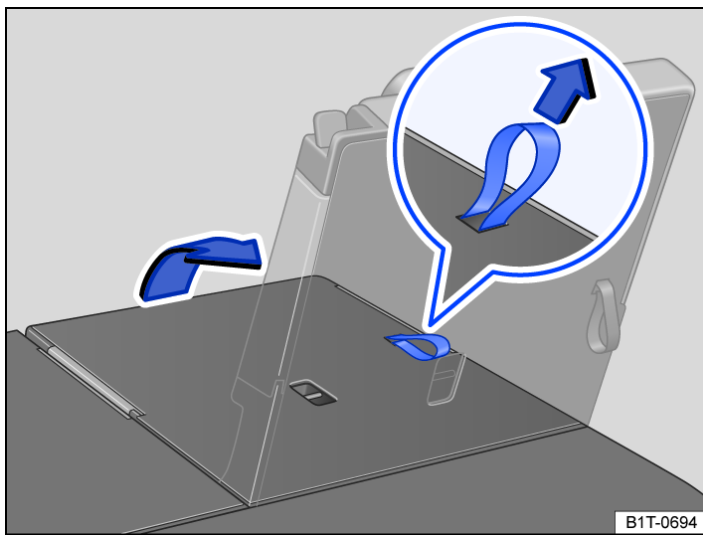

Fig. 2 Third row of seats: folding the rear seat backwards.
- Pull the loop on the rear seat backrest → Fig. 2 to fold back the rear seat backrest. OR: fold back the rear seat backrest by hand from the vehicle interior.
- The red marking on the release lever → Fig. 2 must no longer be visible.